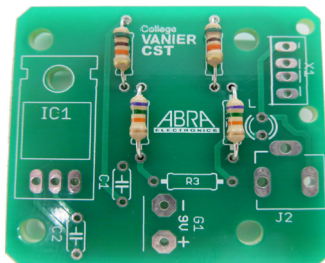

Fig. 2
2. Install and solder R1 and R2 (75K) resistors as per fig 2. Trim leads with diagonal cutter.